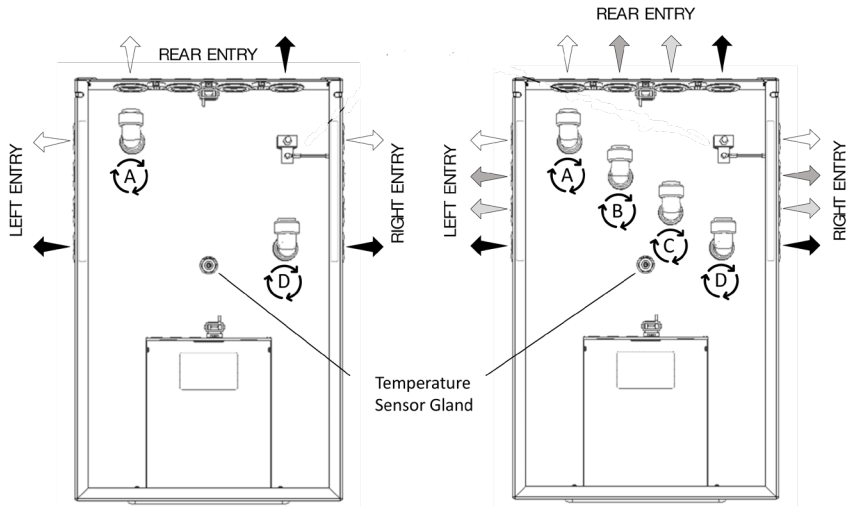

Figure 6 - Flextherm Eco G2 E Ports (3-9E left, 12E right)
- Rotate the elbows to the side you wish to connect the hydraulics (left, right or back) (Figure 6).
- For For Flextherm Eco 3E G2, 6E G2 & 9E G2 products, the cold water inlet must be connected to Port A & the hot water outlet to Port D (Figure 6, left hand side).
For Flextherm Eco 12E G2 products, the cold water inlet must be branched into Ports A & B and the hot water outlet branched into Ports C & D (Figure 6, right hand side).